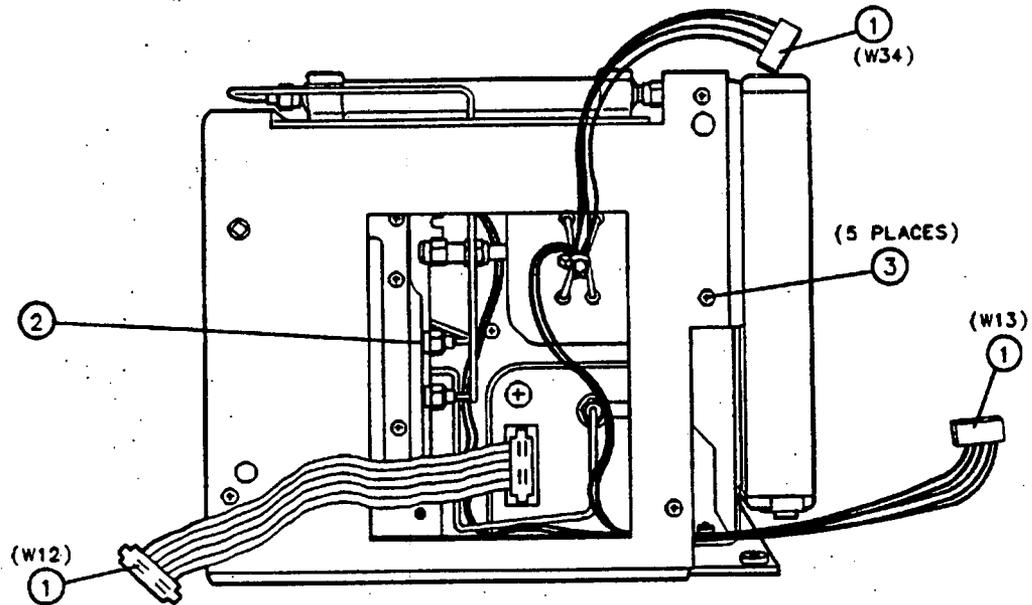

Figure 3-23. A3A10 Directional Coupler Replacement, Right-Side View
4. Note the cable dress of W12, W13, and W34 (1) that pass through the opening in the "D" bracket. See Figure 3-23. (This information is used later, during the directional coupler replacement procedure.)
5. Loosen, but do not disconnect, the W29 semirigid cable (2) from A3A6J2 on the dual mixer.
6. Remove the five screws (3) that hold the "D" bracket in place and remove the bracket.
18. Tighten W29 (4) to 10 inch-pounds.
19. If the two screws and flat washers (5) on the cable clamps were removed, replace them.
21. Route the W12, W13, and W34 wire-harnesses (1) through the opening in the "D" bracket. See Figure 3-23.
22. Position the "D" bracket on the "A" bracket and replace the five screws (3) that hold the "D" bracket in place.
23. Tighten the W29 semirigid cable (2) at A3A6J2 on the dual mixer to 10 inch-pounds.